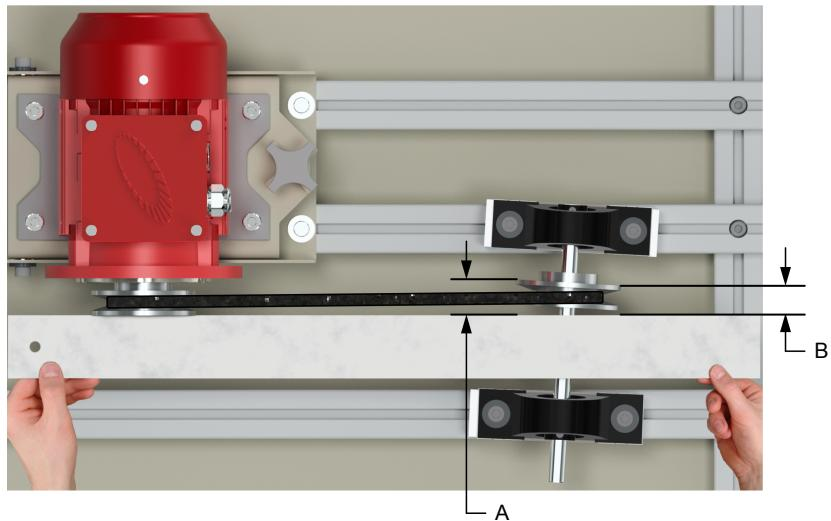

Figure 16. Horizontal angular alignment.
- 22.** Adjust the position of the pillow blocks as shown in Figure 16 until the distances A and B are the same.